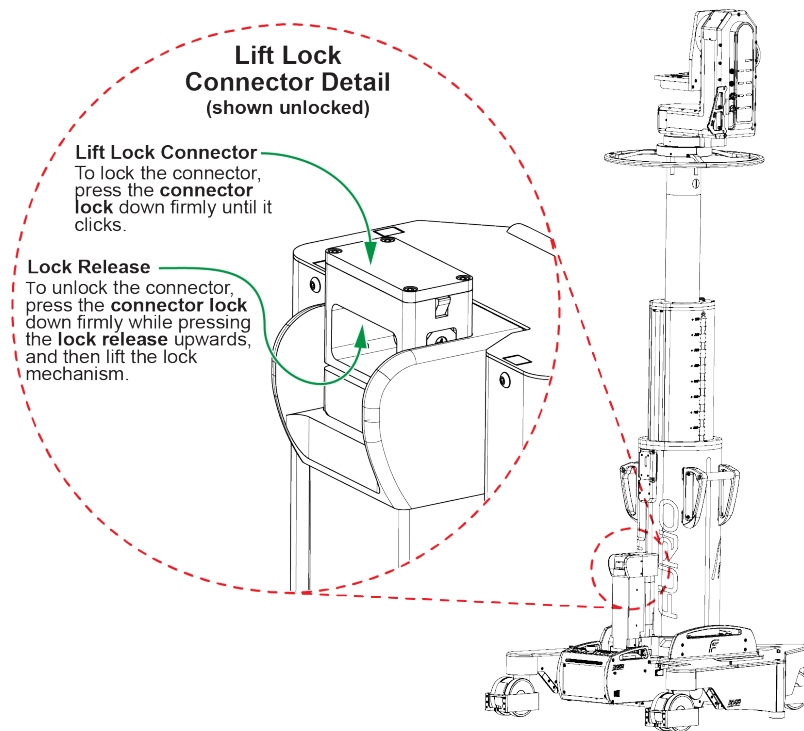

Figure 8 - Lift Lock Connector Detail
3. Disengage the lift lock connector (**Figure 8**).
8. Engage the lift lock connector (see **Figure 8** on **page 32**).